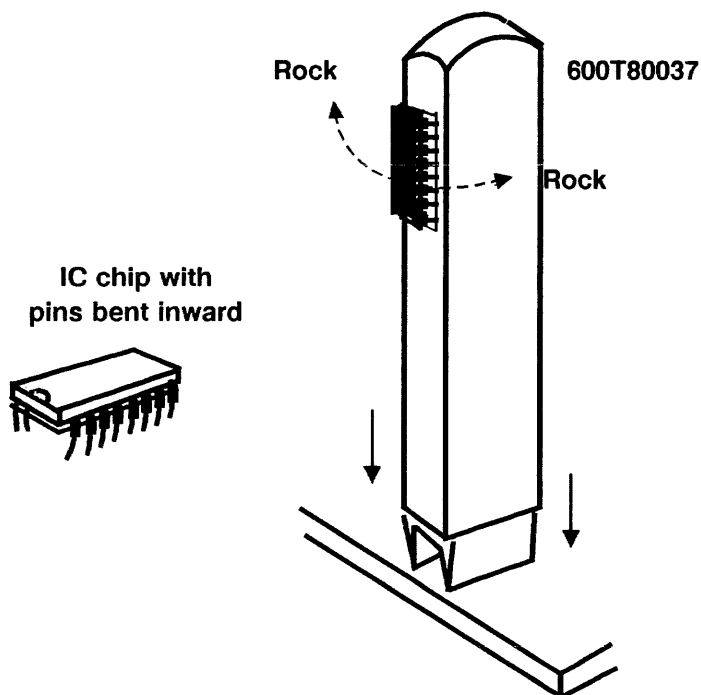

Figure 17. Straightening Bent IC Chip Pins
3. If the pins are bent inward, they must be straightened before the IC Chip can be installed (Figure 17).